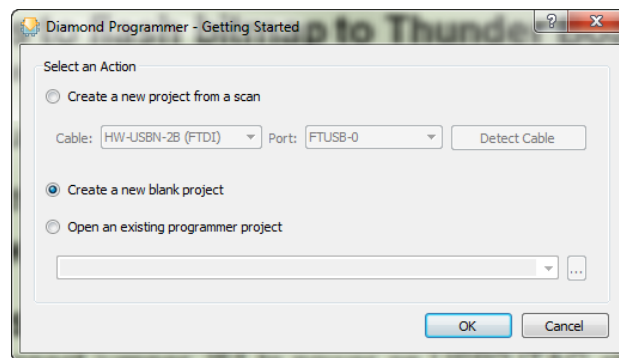

Figure 3.1. Getting Started Dialog Box
5. In the Getting Started dialog box, select **Create a new blank project** as shown in Figure 3.1.